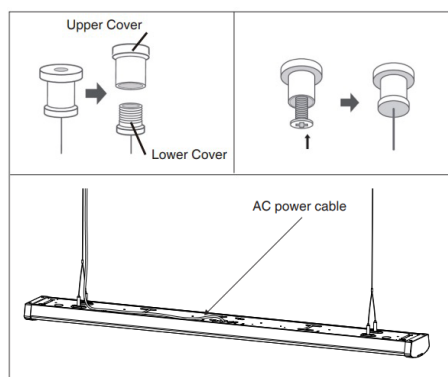

Figure 15
4. Secure the suspension cable to the ceiling (Figure 15).
5. Remove the knock-out center. Route the building AC power cable down along the suspension cord, then feed it through the center knock-out hole on the back of the fixture into the fixture housing. See Figure 15 for reference.